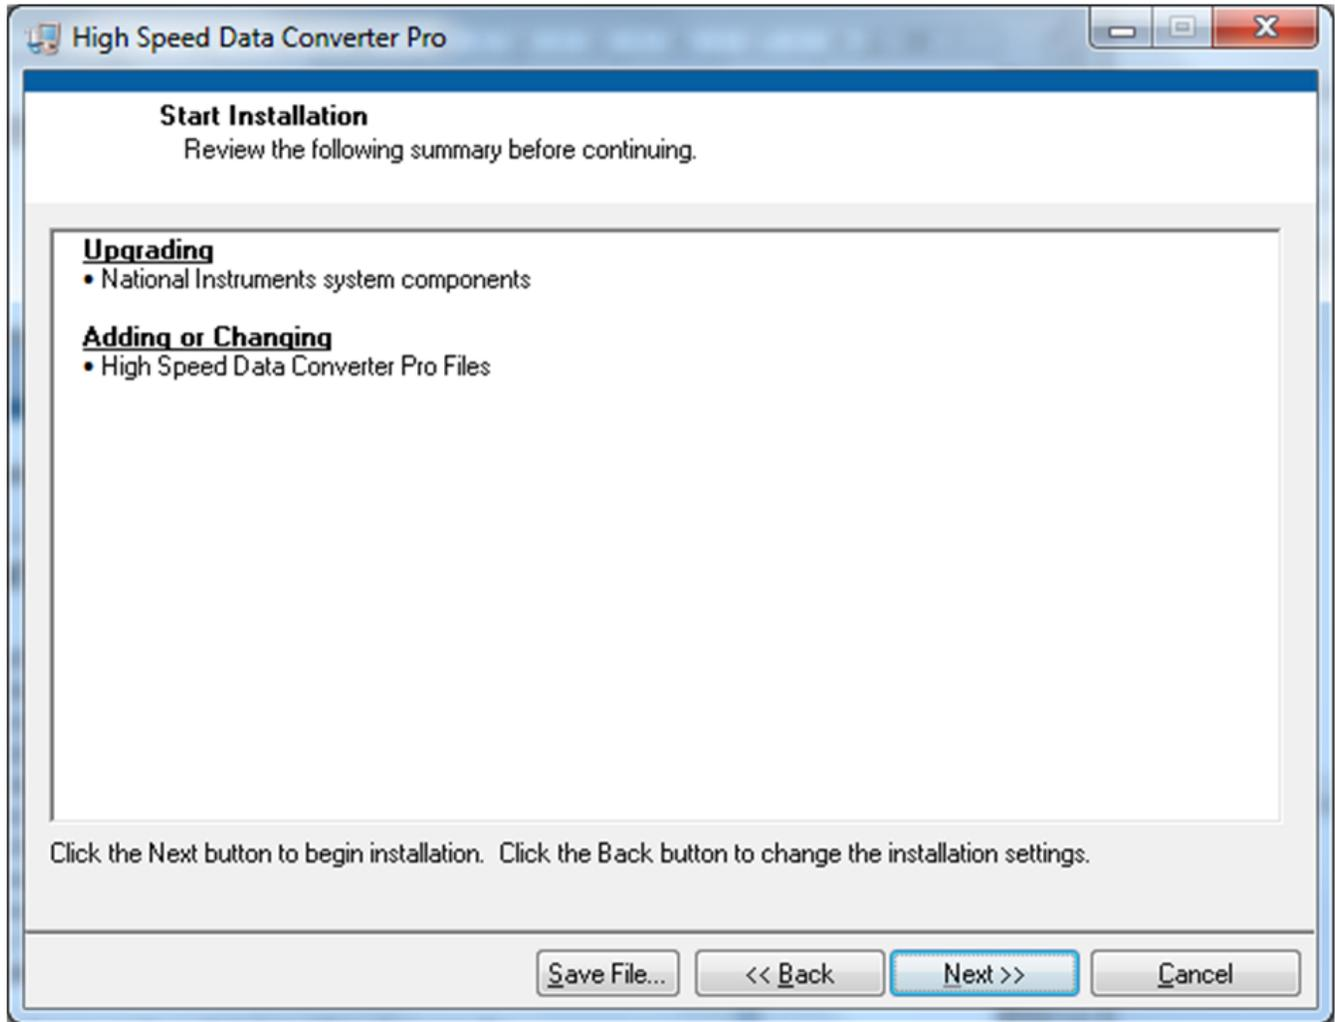

Figure 46. HSDCPro Install (Start Installation)
- Press the *Next* button as shown in Figure 46.